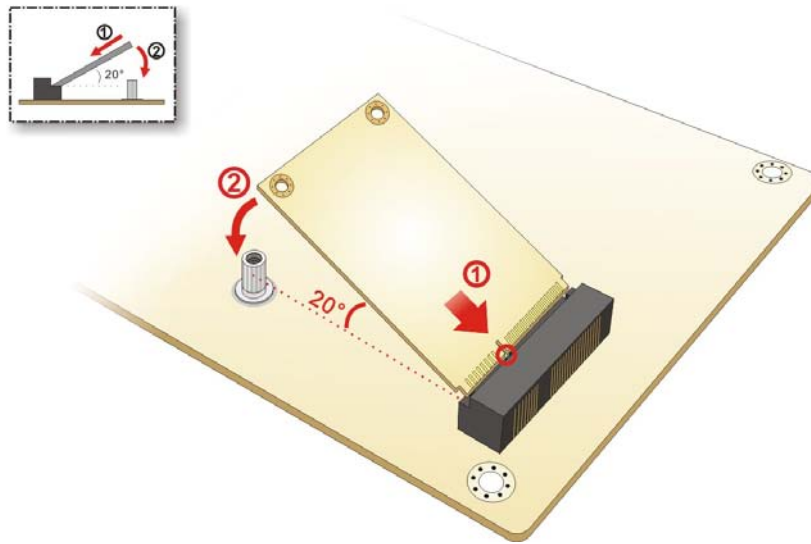

Figure 4-2: Inserting the Full-size PCIe Mini Card into the Slot at an Angle
Step 3: Insert into the socket at an angle. Line up the notch on the card with the notch on the slot. Slide the PCIe Mini card into the socket at an angle of about 20° (**Figure 4-2**).